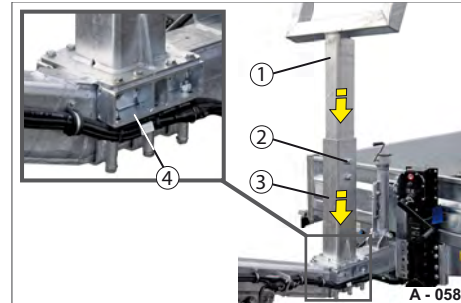

Fig. 62 Conveyor belt carrier assembled
- ▶ Position the mount (Fig. 62/3) with shoe console (Fig. 62/4) on the drawbar.
- ▶ Insert the U-tube fork (Fig. 62/1) at the top into the mount.
- ▶ Tighten down the screw fitting (Fig. 62/2).